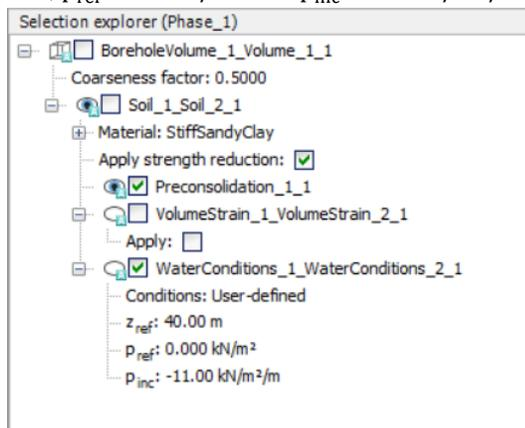

Figure 54: User-defined water condition in part I
3. In the selection explorer (see Figure 54 (on page 78)), deactivate the soil volume. Set the water condition to **User-defined** and enter $z_{\text{ref}} = 40 \text{ m}$, $p_{\text{ref}} = 0.0 \text{ kN/m}^2$ and $p_{\text{inc}} = -11 \text{ kN/m}^2/\text{m}$.